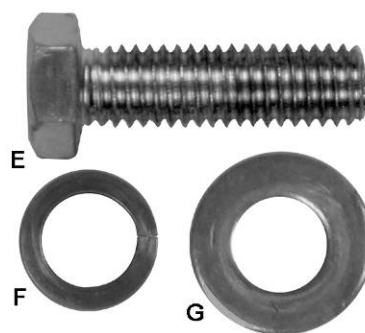

Figure 5
1. Remove *shipping bracket* (A) securing the *motor* (C) to table.
2. After the shipping bracket has been removed, install the *screw* (B) back into the motor support bracket. The upper screws will be used to later to hold the extension wing in place.
3. Remove *shipping bracket* (D) holding *switch assembly* (E) to table. Do not discard the bracket (D); it will be used to install the switch.
4. Remove the remaining *hex cap screw*, *lock washer*, and *flat washer* (F and Fig. 5) in the table edge.
5. Install *motor cover* (G) by aligning the *pins* (H) on the cover with *brackets* on the cabinet.
6. Fasten cover by pulling out the *latch* (J), closing the door, and releasing the latch.
- **Hardware:** (6) 7/16"x1-1/2" Hex Cap Bolts, (6) 7/16" Lock Washers, (6) 7/16" Flat Washers & (2) Extension Wings
1. Attach the left *extension wing* (A) to the *table* (B) with three each *hex cap screws* (E), *lock washers* (F) and *flat washers* (G). Snug so the extension wing can still be manually adjusted but do not tighten.
2. Adjust the extension wing horizontally so the front edge is flush with the front edge of the saw table (C). Then, using the straightedge as reference, adjust vertically so the tops of the extension wing and saw table are flush.
4. Remove the mounting hardware (Fig. 5) from the table on the right side; then attach the right extension wing in the same manner.